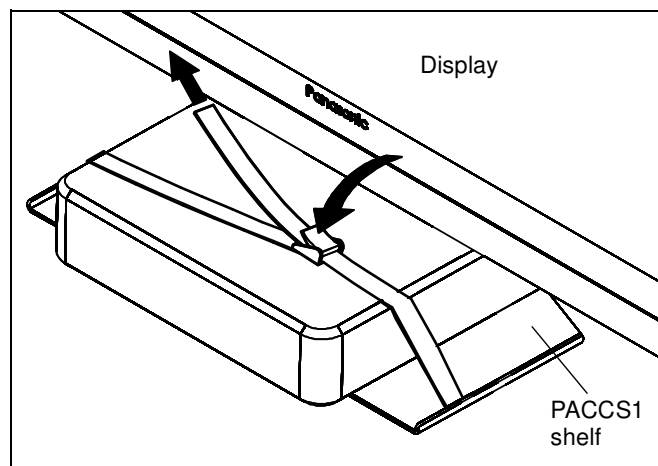

Figure 9
3. **OPTIONAL:** Thread optional strap (PAC103) through slots in shelf. (See Figure 9)